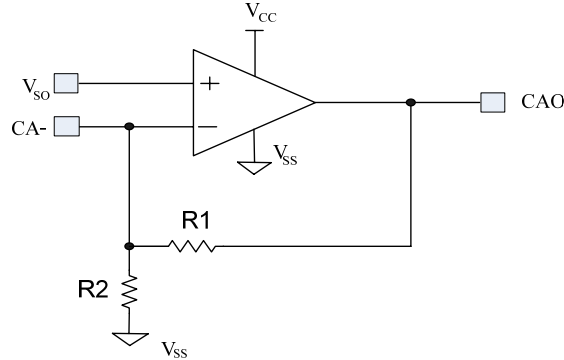

**Figure 28: Negative  $V_S$  transient SOA for IRS233(0,2)(D)**
International Rectifier's HVICs have been designed for the robustness required in many of today's demanding applications. An indication of the IRS233(0,2)(D)'s robustness can be seen in Figure 28, where there is represented the IRS233(0,2)(D) Safe Operating Area at  $V_{BS}=15V$  based on repetitive negative  $V_S$  spikes. A negative  $V_S$  transient voltage falling in the grey area (outside SOA) may lead to IC permanent damage; viceversa unwanted functional anomalies or permanent damage to the IC do not appear if negative  $V_S$  transients fall inside SOA.